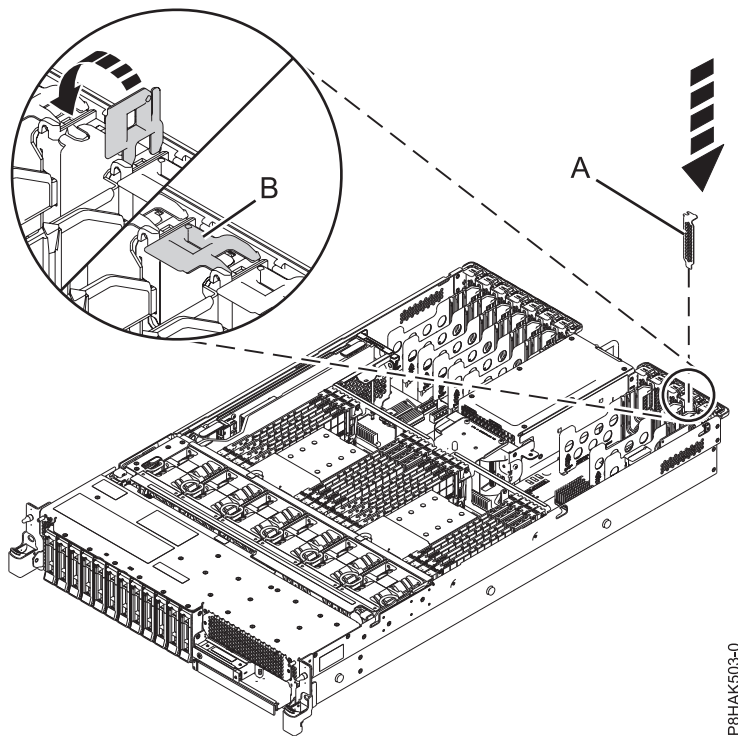

Figure 34. Installing a filler in a PCIe adapter slot in a 5148-21L, 5148-22L, 8247-21L, 8247-22L, 8284-21A, or 8284-22A system
- a. Carefully grasp the filler tailstock and align the filler with the slot and its connector on the system backplane, as shown in Figure 34.